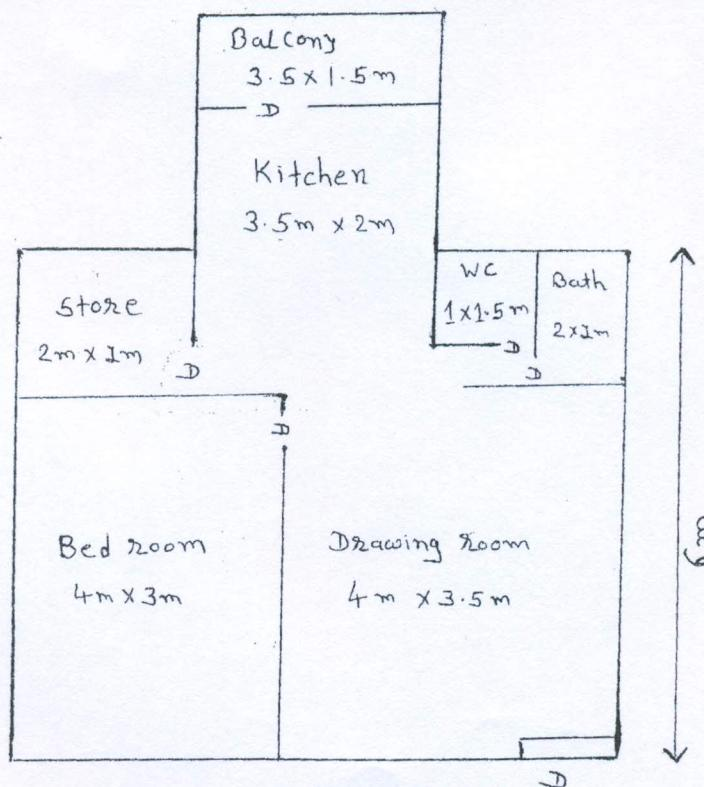

fig. 1
(B) The plan of a modern residential flat is shown in fig.1. The flat is to be provided with 5 electrical connections 1-phase, 230v, 50Hz ac supply.
(B) The plan of a modern residential flat is shown in fig.1. The flat is to be provided with electrical connections 1-phase, 230v, 50Hz ac supply. 5